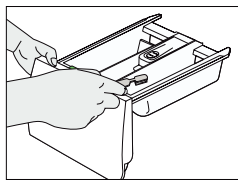
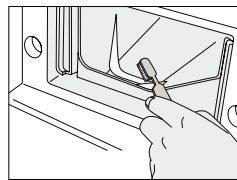

Fig. 21
Fig. 22
- Clean the drawer recess with a small brush. Fig. 21, Fig. 22